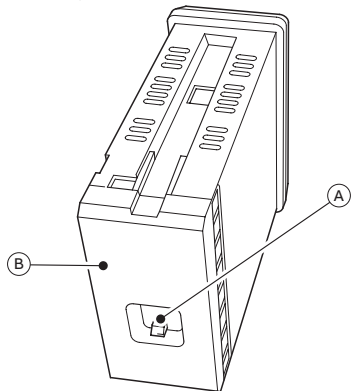

Figure 5 Removing terminal cover
Referring to Figure 5, press terminal cover release catch (A) and pull the terminal cover (B) away from the controller body.